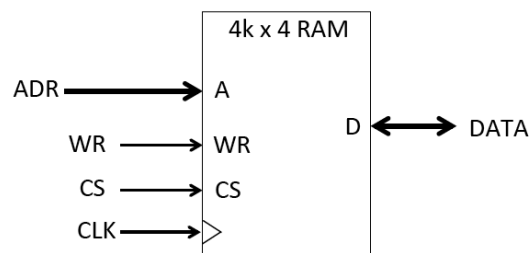

Figure 1.3
(c) *Figure 1.3* shows a 4k x 4 RAM chip with address bus ADR, data bus DATA, a write enable signal WR, a chip select signal CS and a synchronising clock CLK.
a) Design, in the form of a schematic diagram, a circuit using four 4k x 4 RAM chips shown in *Figure 1.3* to implement the 8k x 8 RAM module.